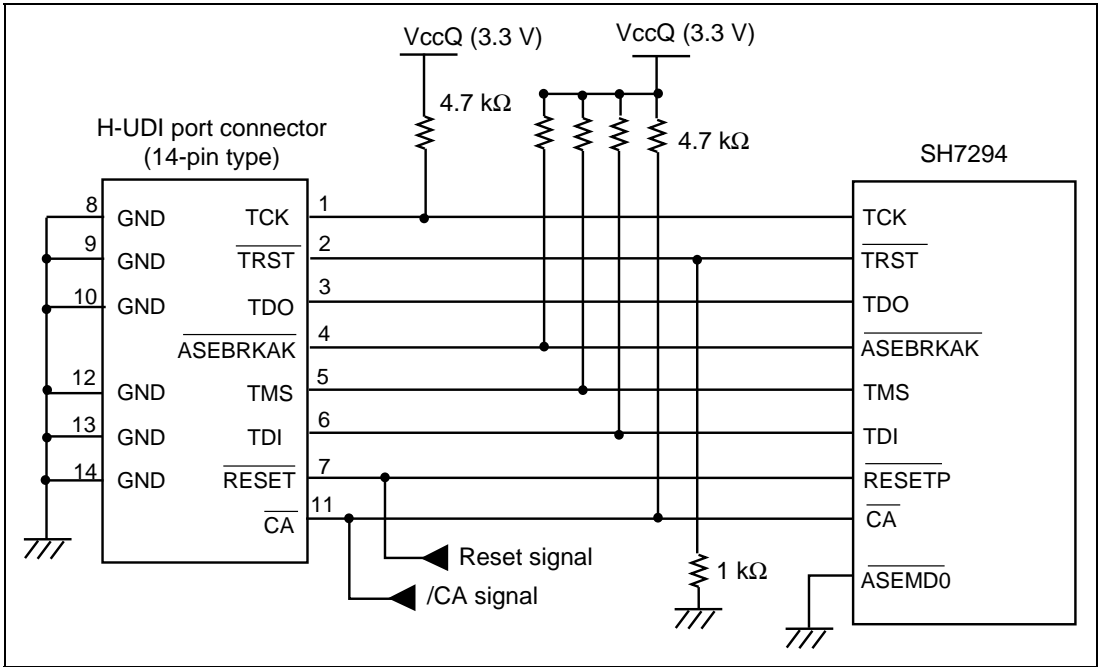

Figure 1.5 Recommended Circuit for Connection between the H-UDI Port Connector and MPU (14-Pin Type)
Figure 1.5 shows a recommended circuit for connection between the H-UDI port connector (14 pins) and the MPU.
- (1) When the emulator is used: /ASEMD0 = low (ASE mode)
- (2) When the emulator is not used: /ASEMD0 = high (normal mode)
8. The resistance values shown in figure 1.5 are recommended.